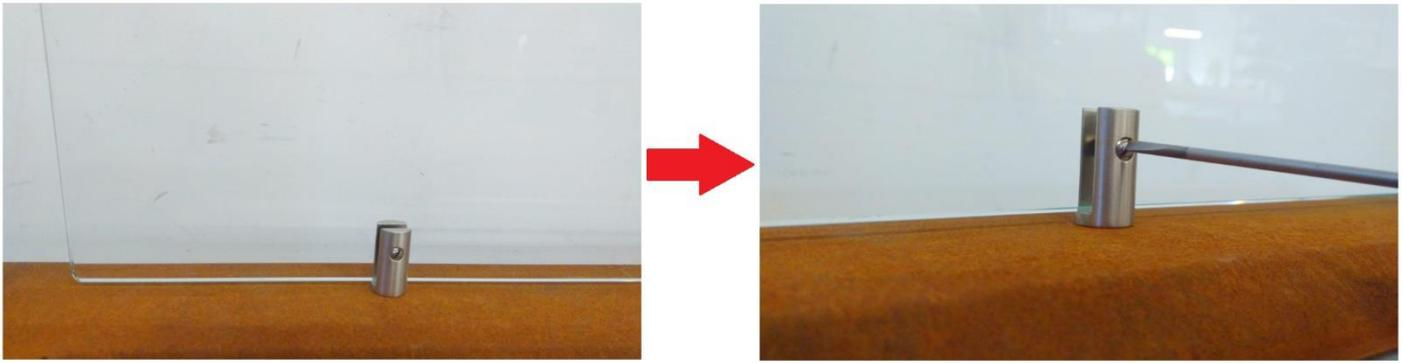

Figure 3
- Install glass shields in the corresponding slots on the appliance as shown on Figure 3.